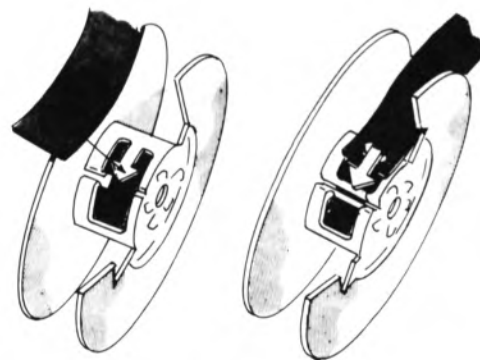

Figure 3-7 Attachment to Spool
(1) Gently pull the bail wire tab to move the bail wire away from the platen.
(2) If the ribbon spools are to be discarded, or if the ribbon is to be inverted, do the following before proceeding to Step 3:
(3) If your replacement ribbon has a new takeup spool preconnected to it, proceed to Step 4. If the spools are not pre-connected to the ribbon, do the following:
- If no hook is available, pierce the end of the ribbon over the point of the arrow (see Figure 3-7).